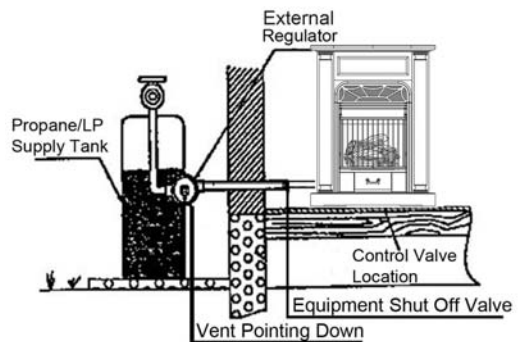

Figure 12 Checking Gas Joins
3. Check all joints from gas meter to equipment shutoff valve (see Figure 12). Apply mixture of liquid soap and water to gas joints. Bubbles forming show a leak.